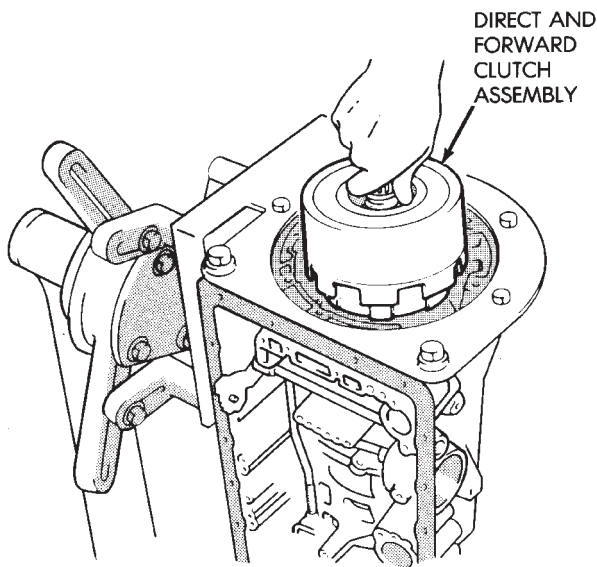

Fig. 105 Removing Direct And Forward Clutch Assembly
(37) Remove direct and forward clutch assembly (Fig. 105).